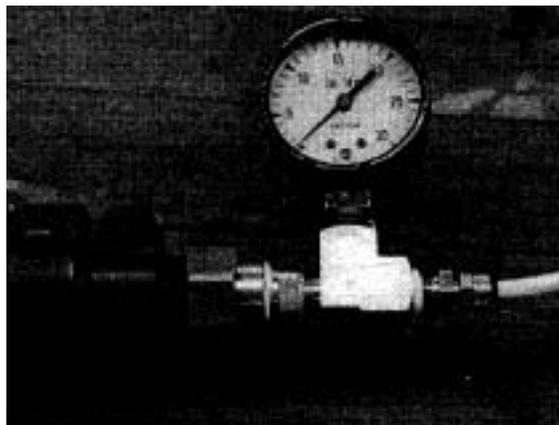

Figure 3—Vacuum gauge.
- Attach the vacuum gage to the garden hose adapter using the pipe street tee and 1/4" x 1/2" pipe bushing (see figure 3).